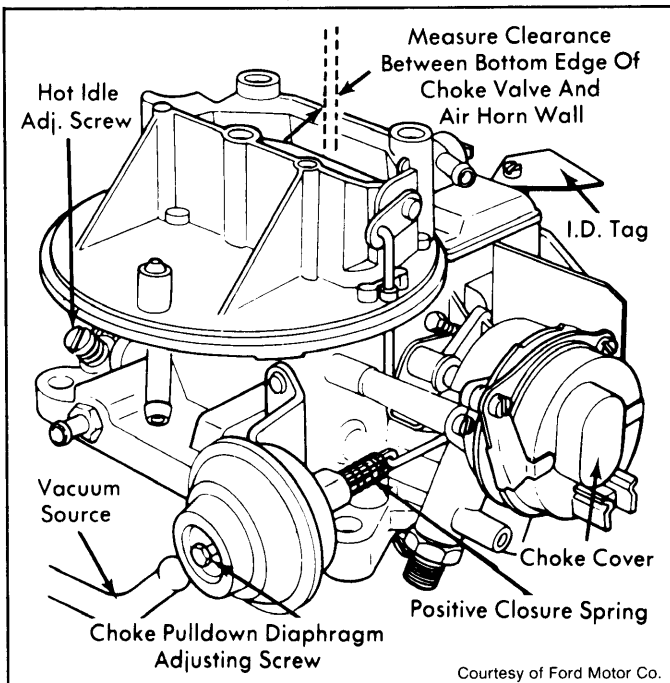

Fig. 5: 2150 Choke Pulldown Adjustment (Initial Choke Valve Clearance)
4) To adjust, rotate adjusting screw until correct clearance is obtained. See Fig. 5. Perform FAST IDLE CAM LINKAGE adjustment.